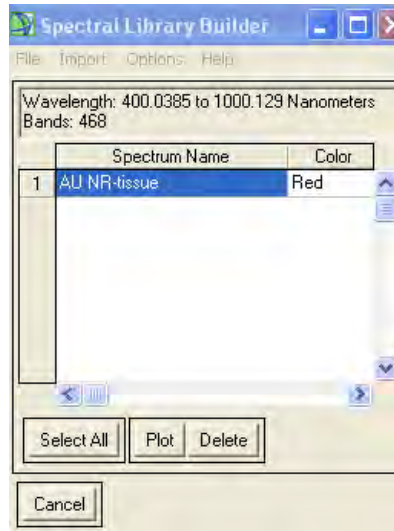

Figure 5. Spectral Library Builder dialog window
3. In the plot window click and drag the label (AU NR Tissue) to the spectrum list in the Spectral Library Builder dialog (see Figure 5)